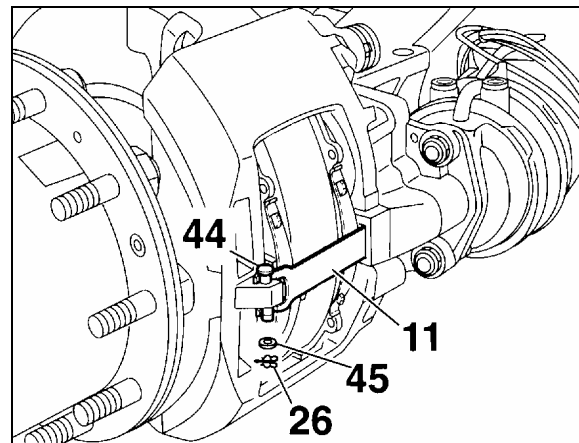

FIGURE 25: CLEARANCE INSPECTION
Remove clip and washer (26 & 45, Fig. 25), push down retainer bar (11), pull out pin (44) and remove retainer bar. Push caliper toward